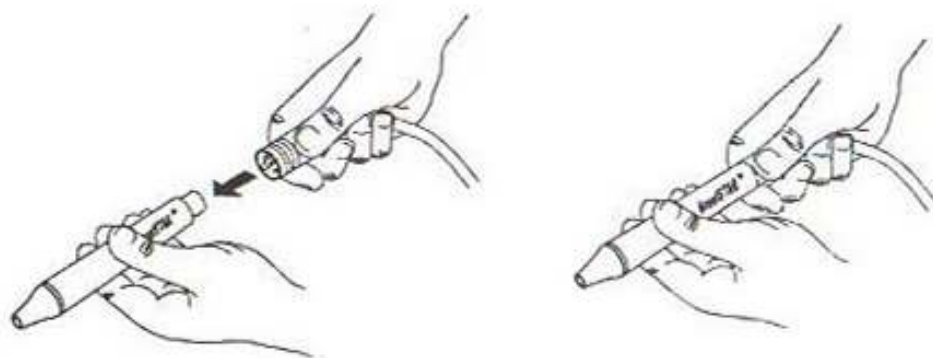

Fig. 3: Schematic Diagram of handpiece Installation
(1) Installation of handpiece: Securely connect one end of the handpiece that has semicircular socket with the handpiece connector on the main unit (Refer to Fig.3).